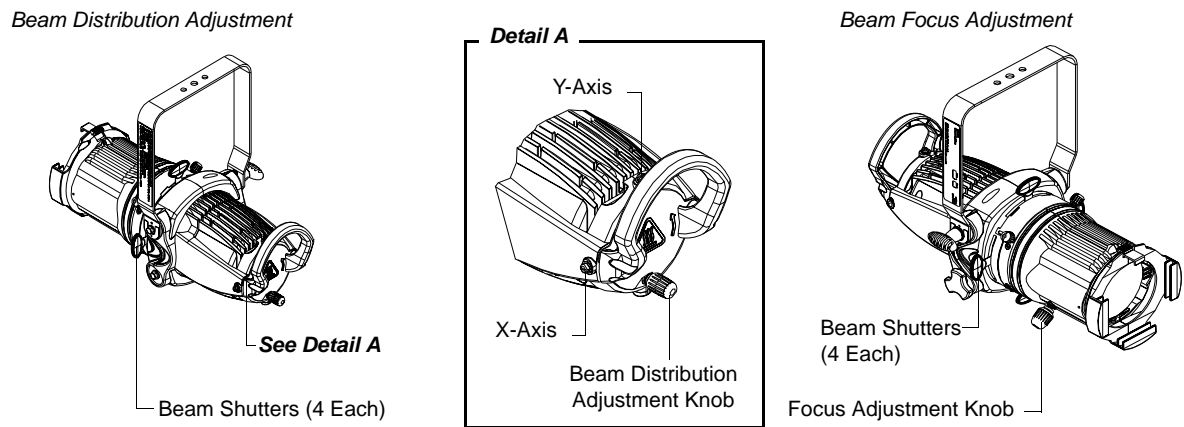

Figure 7: Fixed Beam Models - Beam Adjustments
- Step 2. Using X-Axis Adjustment, Y-Axis Adjustment, and Beam Distribution Adjustment Knob (as indicated in Figure 7) set beam distribution as desired. Note, X and Y-Axis adjustments require the use of a flat-head screwdriver.
- Step 3. Loosen Focus Adjustment Knob as shown in Figure 7.